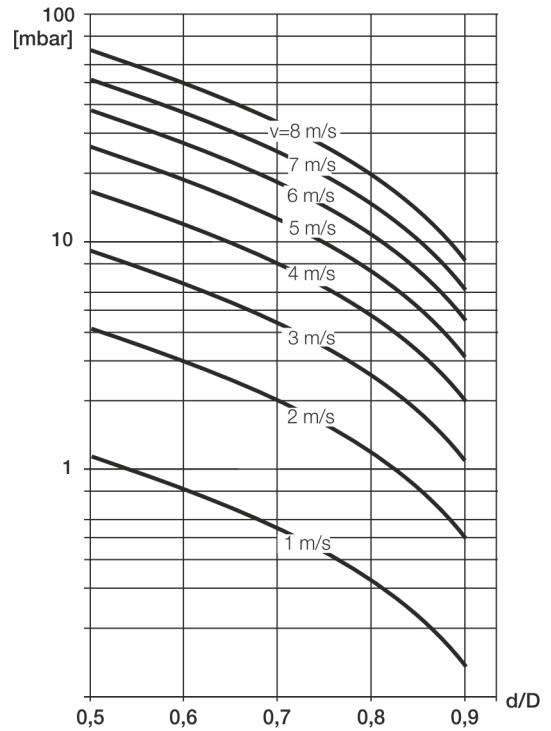

Figure 25: Flow rate nomogram for flange transition piece at $\alpha/2 = 8^\circ$
2. Determine the flow velocity based on the flow rate nomogram (Figure 25).
3. Read the pressure loss on the Y-axis in Figure 25.